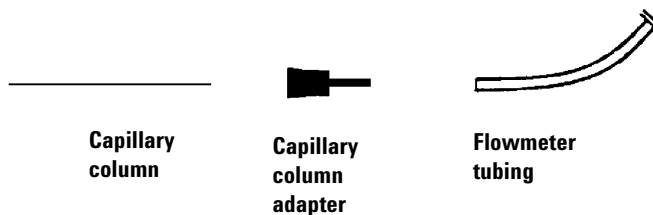

Figure 10 Capillary column to flowmeter union
- 1 Connect the column to the flowmeter. See Figure 10.